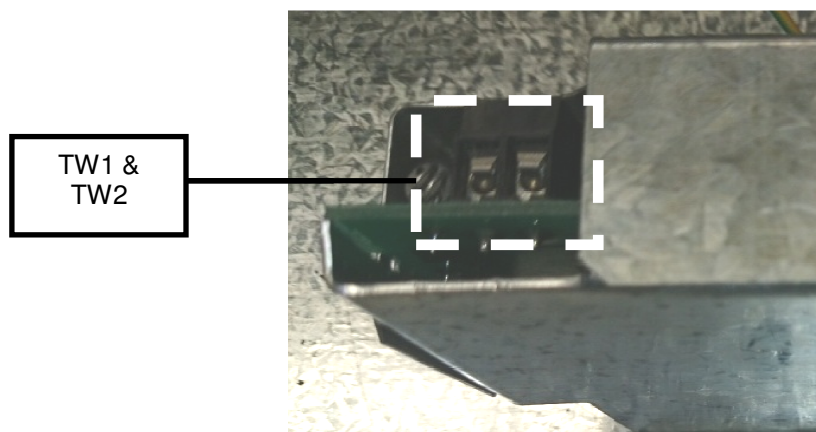

Figure 6
2. Connect the Two-Wire Bus wire from the Networker to the TW1 & TW2 terminals on the 539 Interface Module. See **Figure 6**